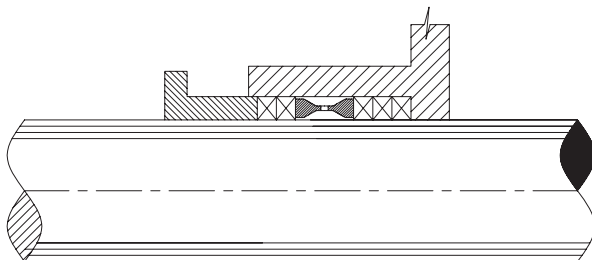

Fig. 10
8. If the stuffing box has a lantern ring, make sure the lantern ring, as installed, is slightly behind the fluid inlet as gland pressure is applied. (Fig 10)